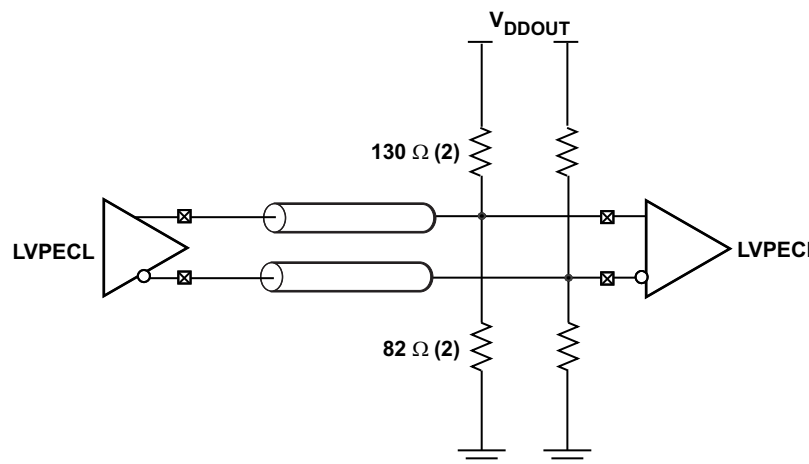
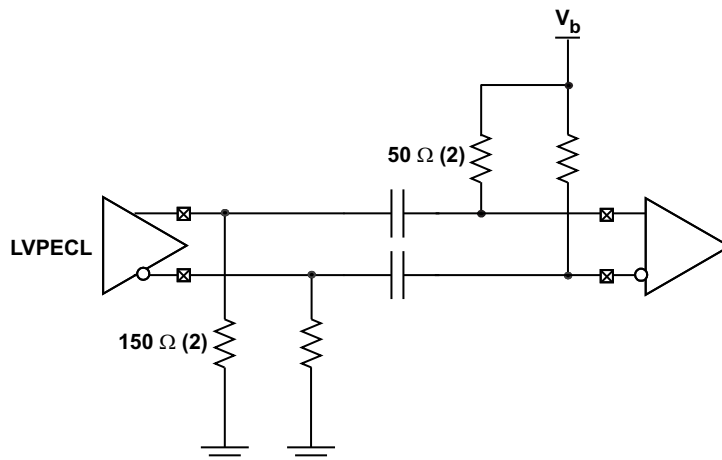

Figure 11. LVPECL Output Termination (DC-Coupled)
Figure 12. LVPECL Output Termination (AC-Coupled)
The CDCM9102 is an open emitter for LVPECL outputs. Therefore, proper biasing and termination is required to ensure correct operation of the device and to optimize signal integrity. The proper termination for LVPECL is 50 Ω to (Vcc-2) V but this DC voltage is not readily available on a board. Thus a Thevenin's equivalent circuit is worked out for the LVPECL termination in both direct-coupled (DC) and AC-coupled cases, as shown in Figure 11 and Figure 12. TI recommends placing all resistive components close to either the driver end or the receiver end. If the supply voltages of the driver and receiver are different, AC coupling is required.